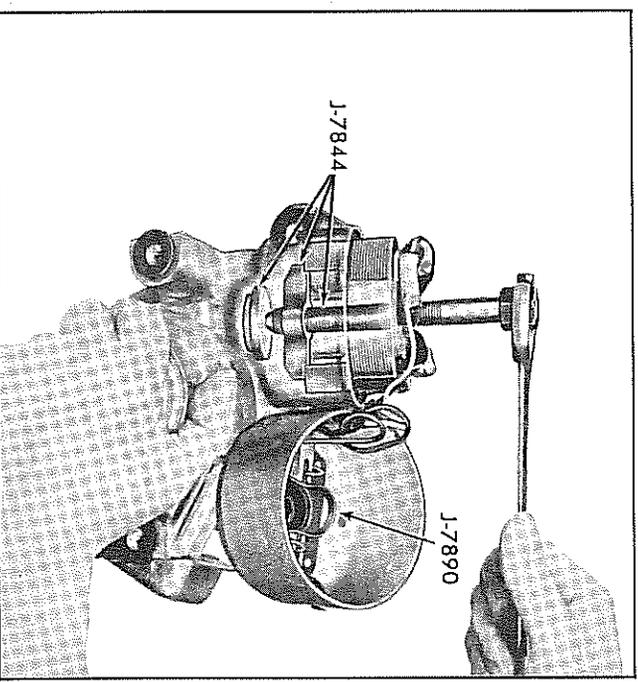

Fig. 18—Removing Field Coil With Tool J-7844
- c. Install field puller tool J-7844 as shown in Fig. 18 and remove field.